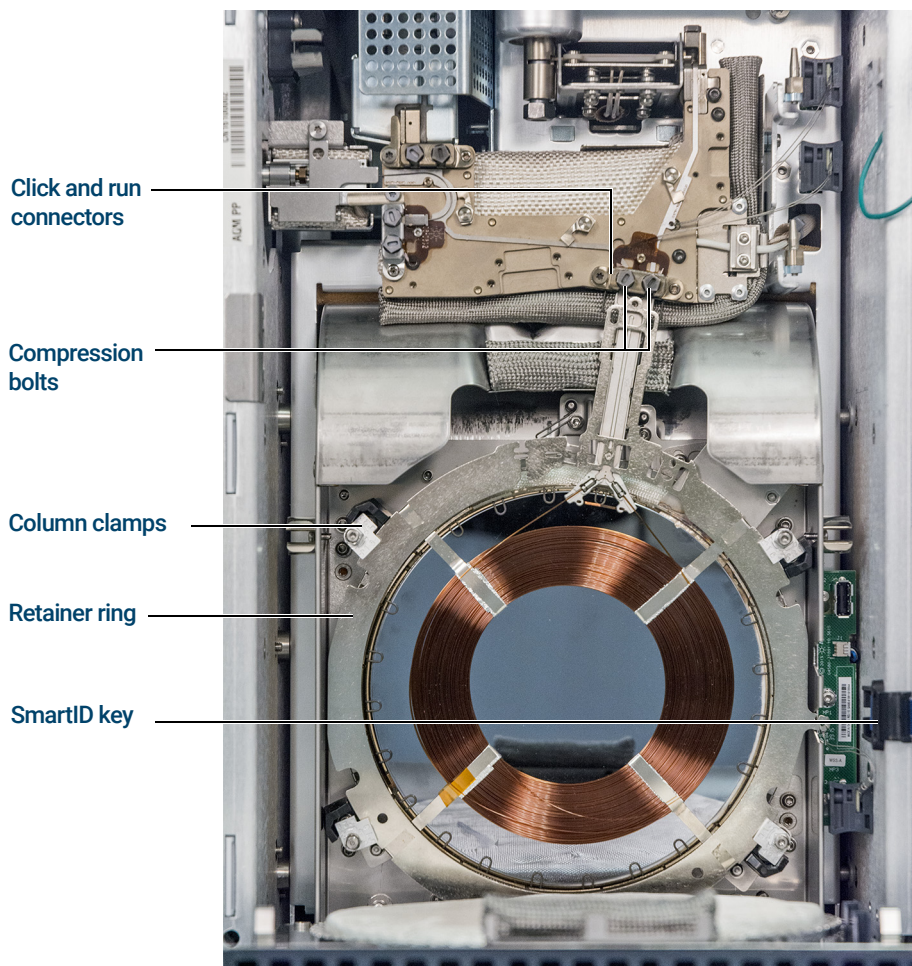

Figure 10. 9000 GC column and related parts
- 7 Using the Intuvo torque driver, rotate all four column clamps off the column's retainer ring. (See Figure 10.)